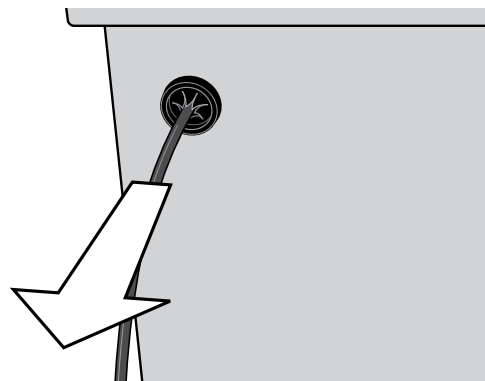

Figure 6
4. When passing cords into the box, be sure to always enter box from the rear. After head of cord is in place, slightly pull back 2-3" to ensure weather resistant "star bursts" are facing toward the outside of box (figure 6). *Never push the cord from inside the box so that mating plug points are exposed to the environment*